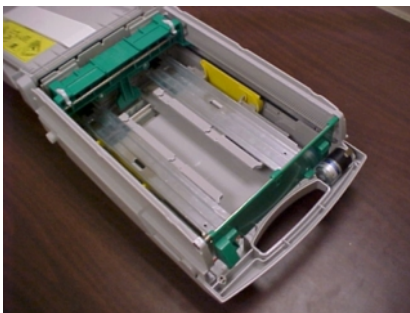

Figure 3
3. Push the note support assembly to the rear (feed-end) of the cassette, as in Figure 3.